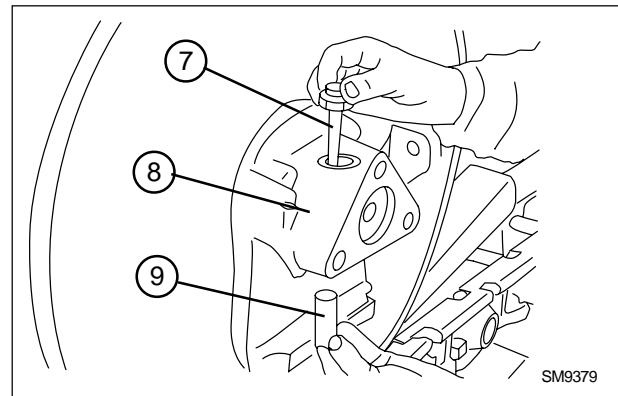

Fig.25
Reinstall idler supports (8 fig. 25) and block the idler shaft with screw (7) making sure, before tightening to torque, that item (9) is properly seated.